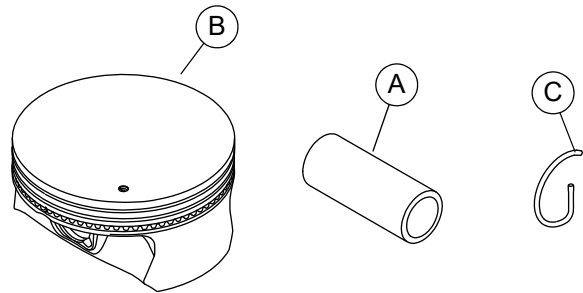

Figure 12-2. Piston, Wrist Pin, and Snap Ring
See Figure 12-2. An oil hole in the wrist pin (A) of the piston (B) helps distribute oil to aid in cooling. This oil hole is also provided to assist in removing the wrist pin snap ring (C).